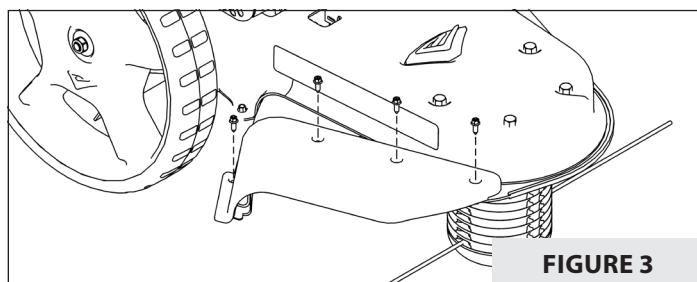

FIGURE 3
1. Install the discharge chute as shown. **SEE FIGURE 3.**